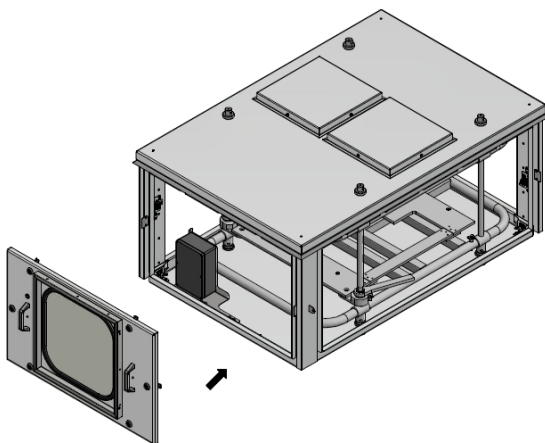

Figure 10 Installation of *Front-Panel* and connection of the button
- Screw the Rear-Right-Pole component using the pre-assembled wing screw shown in Figure 10 and tighten it manually.